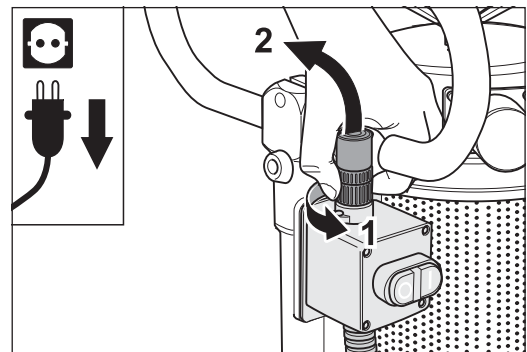

Fig. 51 Loosen the ring nut (1) and remove the cable plug from the switch (2).
- Loosen the cable plug of the sensor on the ON/OFF switch by turning the ring nut **counterclockwise** (fig. 51, 1) and pull the cable plug off (fig. 51, 2).